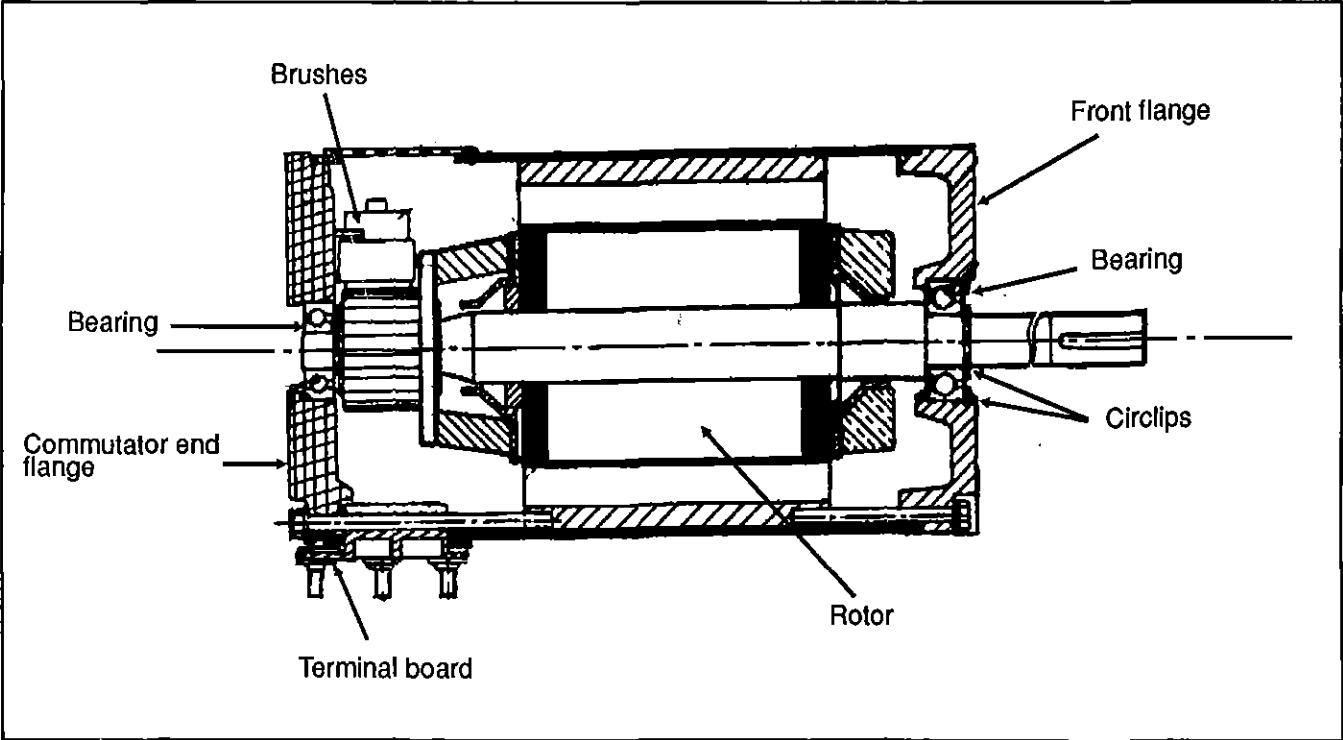

FIG. 12
2. Unscrew the flange retaining screws on the shaft end side (opposite to the commutator end frame), and separate flange from frame (see fig. 12).